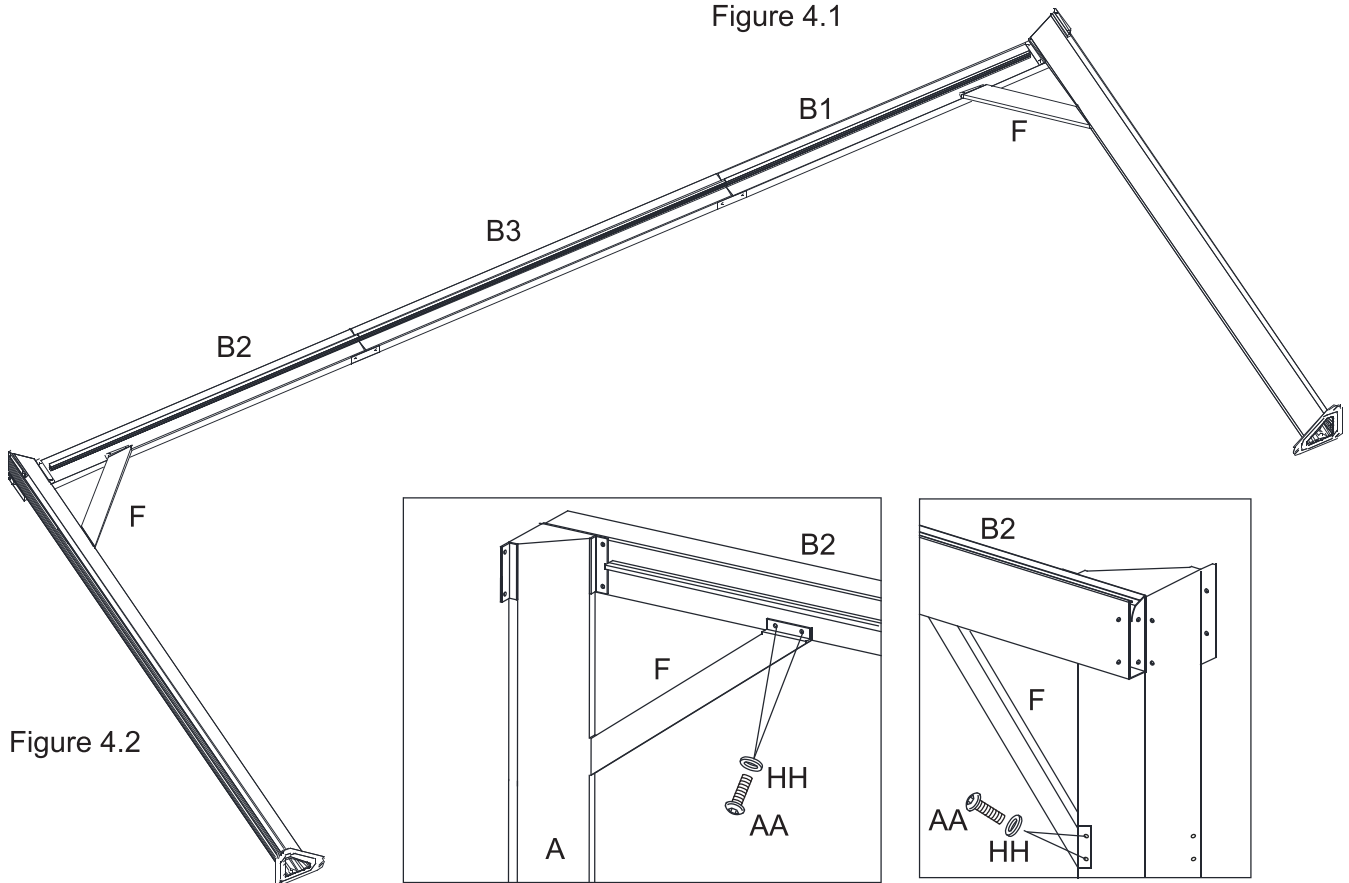

Figure 4.2
4.2: Repeat for opposite side Lintels (B1,B2and B3) and Corner Posts (A). See Figure 4.2.